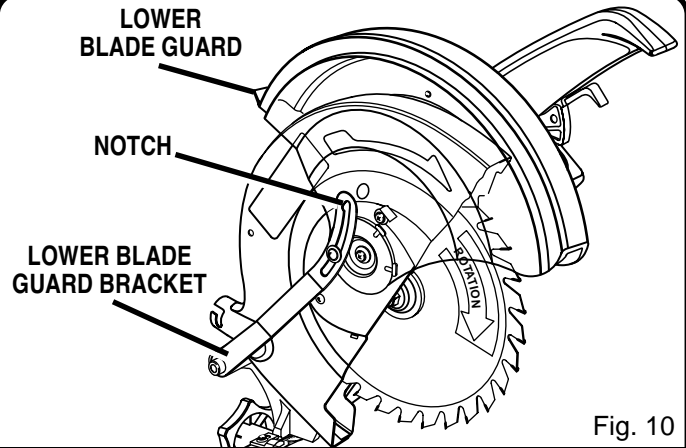

Fig. 10
See Figures 10, 11, and 12.
- Gently raise the lower blade guard bracket, releasing lower blade guard from notch so that it can be rotated up. *See Figure 10.*